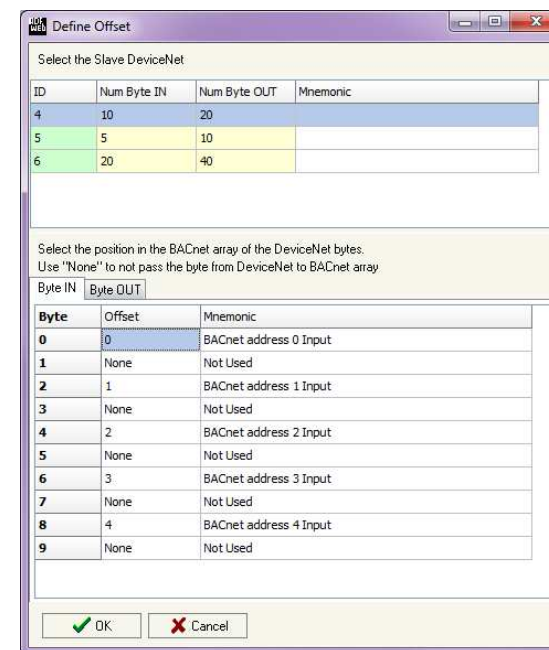

Figure 5a: "Byte IN" window
By pressing the "Define Byte" button from the main window for SW67680 (Fig. 2) the window "Define Offset" appears (Fig. 5a e 5b).
**Byte IN** (Fig. 5a):